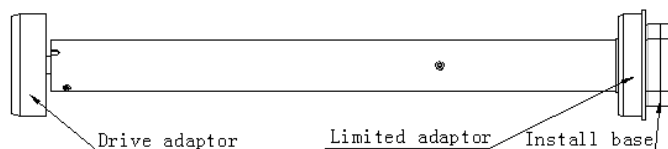
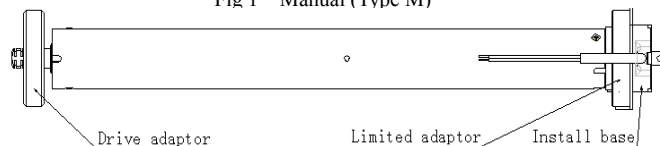

Fig 1 Manual (Type M)
Fig 2 Without manual (Type R)
4. Product Scheme: Fig.1 Manual (Type M) , Fig.2 Without manual(Type R)